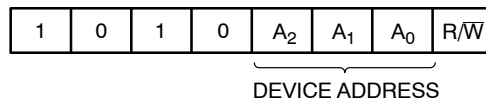

Figure 3. Slave Address Bits
The Master addresses a Slave by creating a START condition and then broadcasting an 8-bit Slave address. For the N24C32, the first four bits of the Slave address are set to 1010 (Ah); the next three bits, A2, A1 and A0, must match the logic state of the similarly named input pins. The R/W bit tells the Slave whether the Master intends to read (1) or write (0) data (Figure 3).